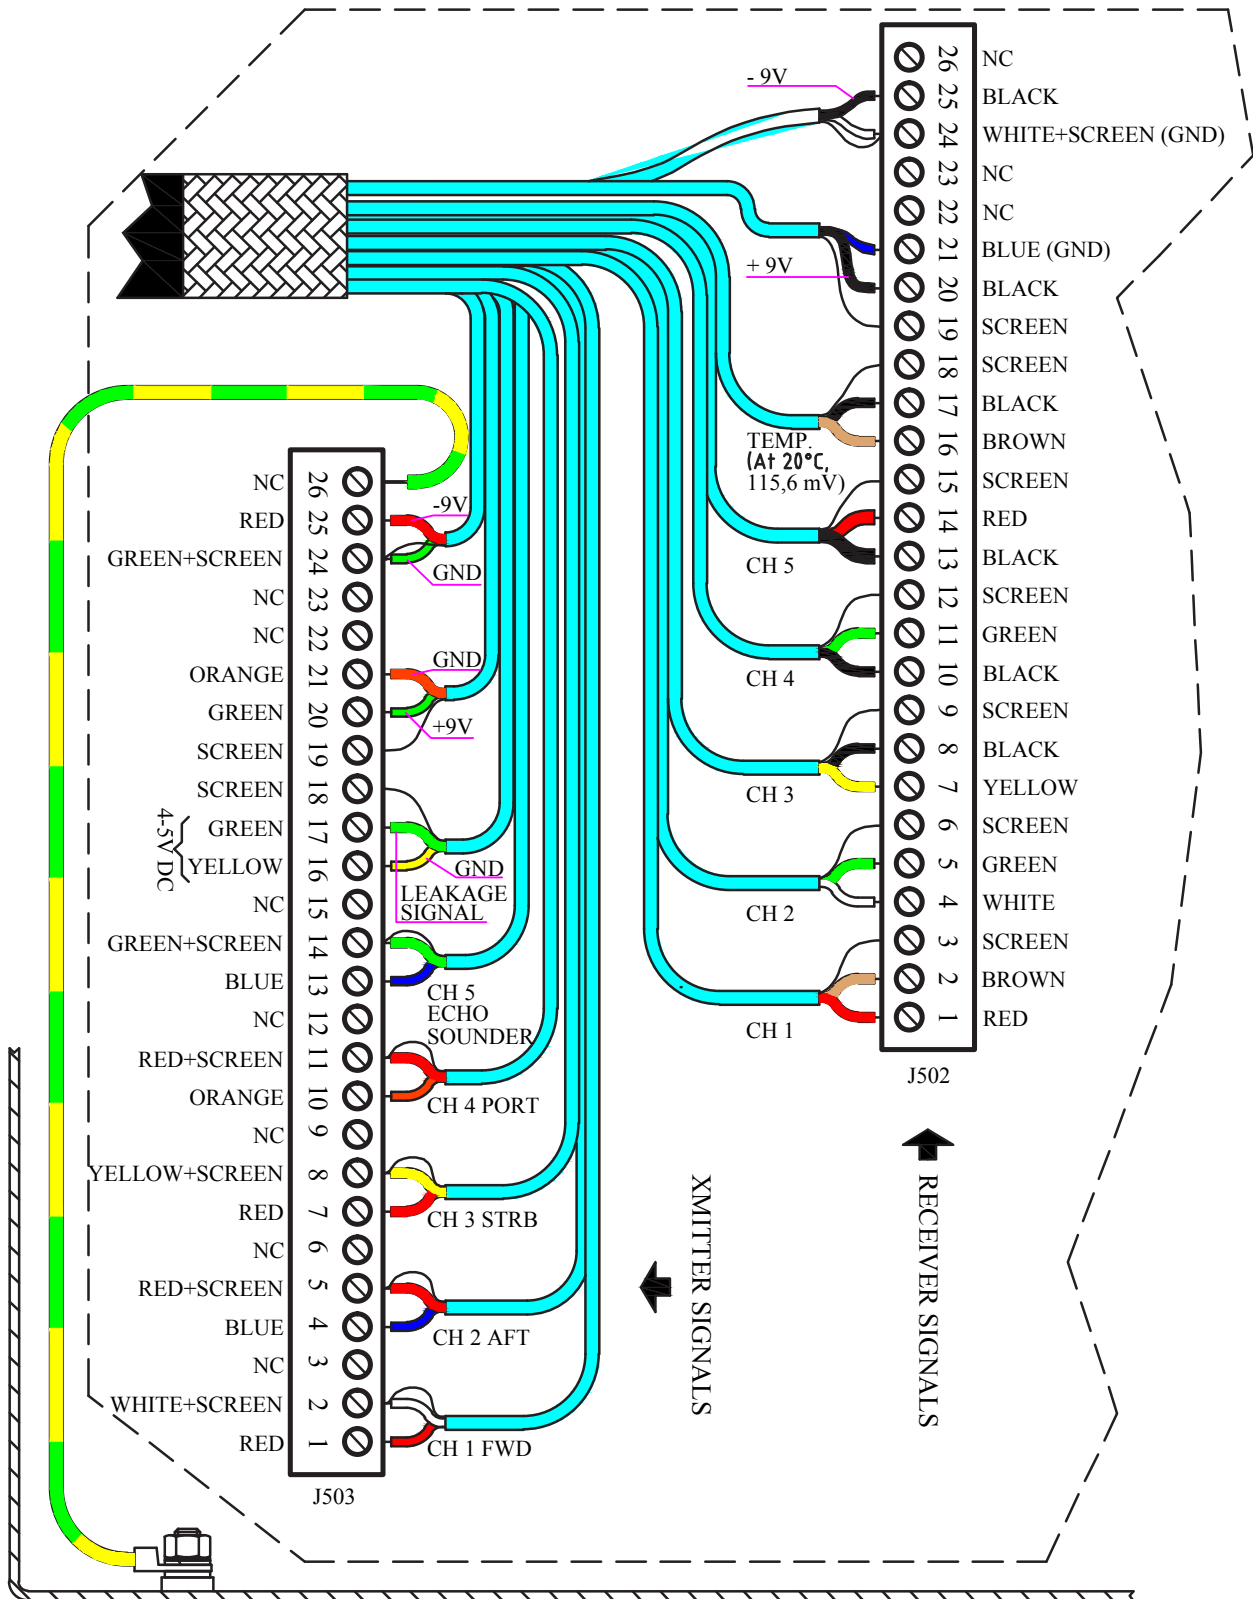

Fig. 10.5. 540 kHz Sensor Cable Connection
- Fig. 10.5. Interconnection diagram between sensor and the transceiver unit. See “540 kHz Sensor Cable Connection” on page 71.